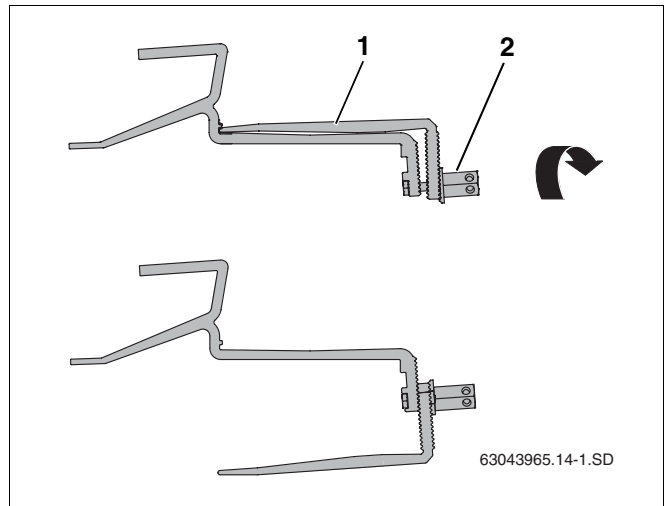

Fig. 11 Turning the lower part of the roof hook
- ▶ Loosen the long hexagon nut (Fig. 11, **Item 2**) on the roof hook and move the lower part of the roof hook (Fig. 11, **Item 1**) to the correct position.